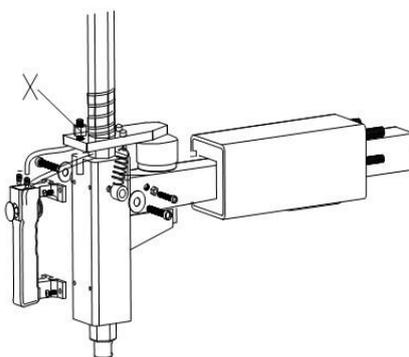

Fig 24
**Note:** If Vertical Arm not be locked or not meet the requirement that 2-3mm from the bottom of Mounting head/demounting head to rim, please adjust Hexagonal Locking Plate, refer to Fig 24 and adjust the (X).